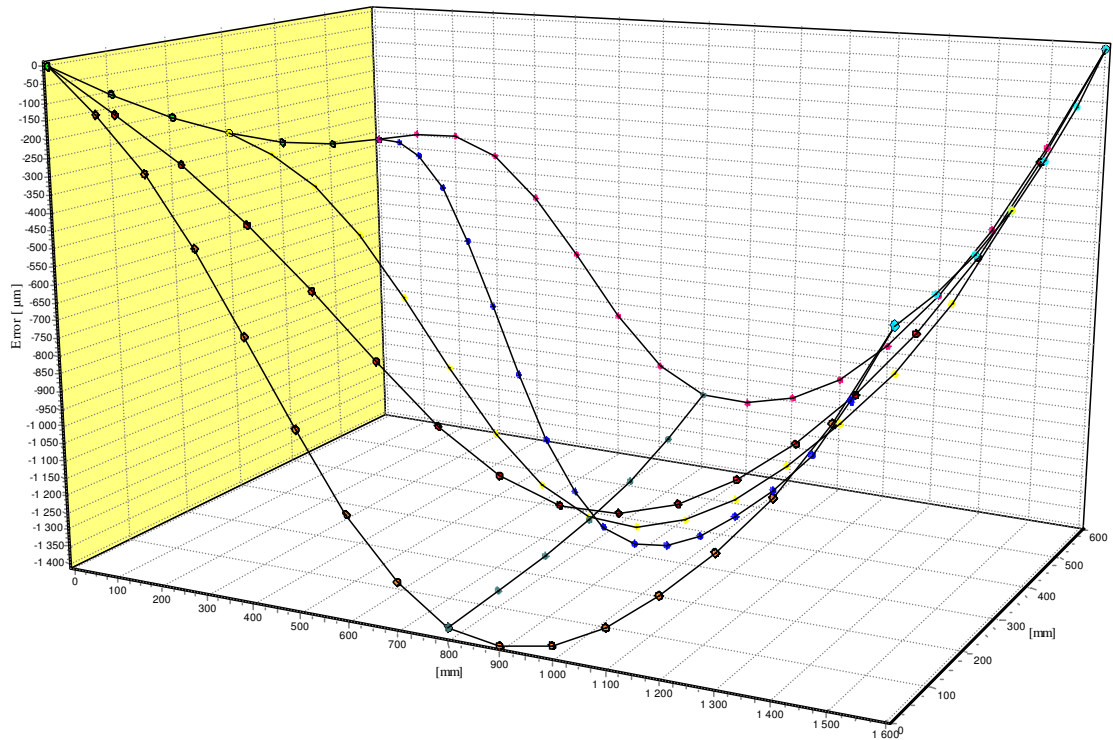
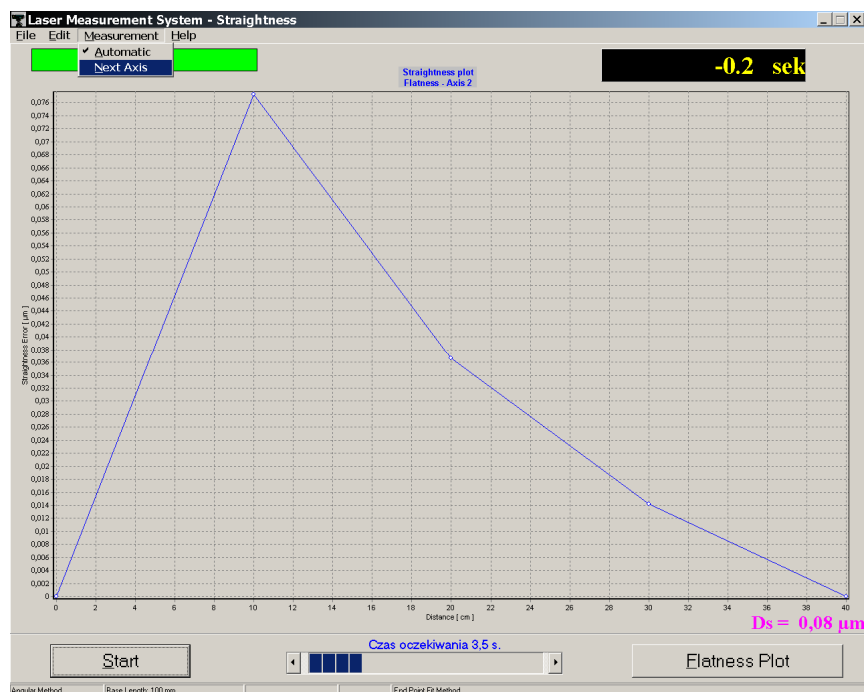

FIG.8.1. AN EXEMPLARY SURFACE FLATNESS MAP
**FIG.8.5. THE MEASUREMENT AXES**
The flatness measurement is done on the basis of angular straightness measurements. In order to obtain a measured table flatness the measurement of angular straightness in eight axes is necessary. From obtained data a flatness map is drawn (fig.8.1.).
The measurement of flatness consists of the measurements of deviations from straightness made along 8 axes. The measurement axes are set (in panel- Measurement->New Axis ) on a measured surface as shown on figure 8.5. On this figure are shown also: directions of measurements in the axes and margins that must be kept during measurements.
*Straightness*. Depending on the measurement axis, a different set of optical components is used and the alignment of the optical path is done in slightly different way. All flatness measurements are done with one laser head position, shown on Figure 8.5.
The flatness measurements are performed in the option **Flatness**, chosen from the **Main Menu**. After setting proper base length (standard is 100mm) and machine data (Edit->Machine Data and Edit->Base Length), the *Measurement* button should be pressed. Than a measured axis should be chosen (fig. 8.5) and than the optical path should be adjusted (see below). After the straightness of a chosen axis is measured a next axis should be chosen – Measurement->New Axis (fig. 8.6) When all the axes are measured, Flatness Plot button should be pressed. The received flatness plot (fig. 8.1) may be saved, printed or exported to a text file (File->Save, File->Print or File->Export).